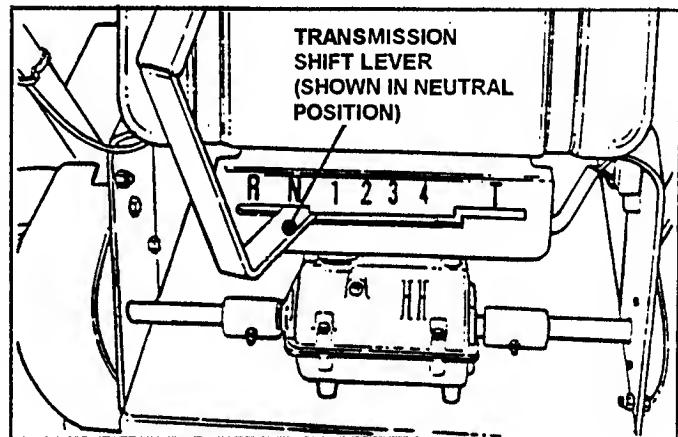

FIGURE 4
3. Place Transmission Shift Lever in NEUTRAL(N) position. See Figure 4.